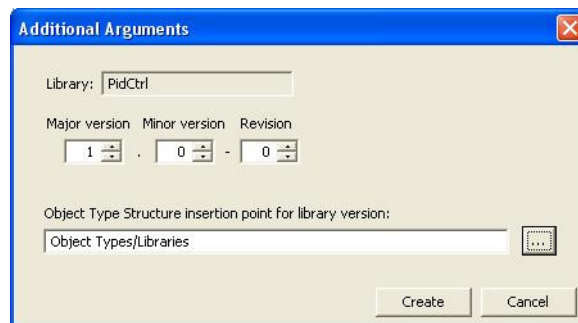

Figure 343. Additional Arguments Dialog Box
3. In the Additional Arguments dialog box, see Figure 343, you select version number for the first version of the library. You also select the Object Type Structure Insertion Point, either by using the browse button or directly type the path in the text field.